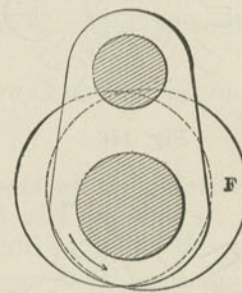

Fig. 185. Two Eccentrics, Lapped Valve, with rocker.
A. Each should be back of the crank pin (in the opposite direction to that in which it is intended to run the engine)  $90^\circ$ , less enough extra turn to bring the valve line-and-line for admission at stroke end; the eccentric bellies being toward the crank. (See Fig. 185, in which the forward eccentric is marked F.)